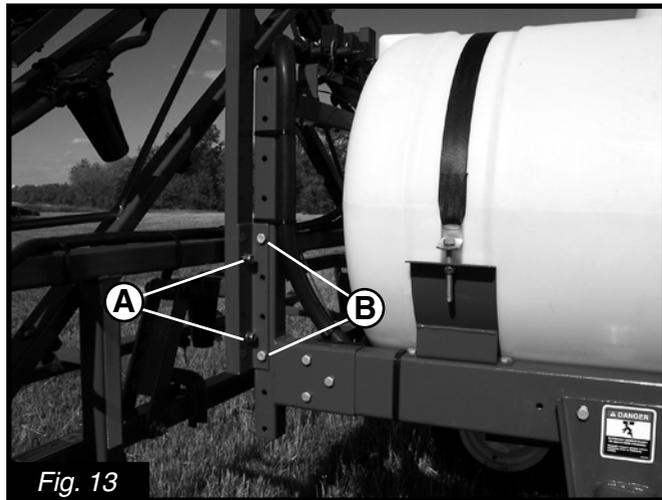

Fig. 13
2. Loosen bolts **A** and remove bolts **B** (Fig. 13) on both sides of sprayer frame.
4. Reinstall bolts **B** and tighten bolts **A** (Fig. 13).